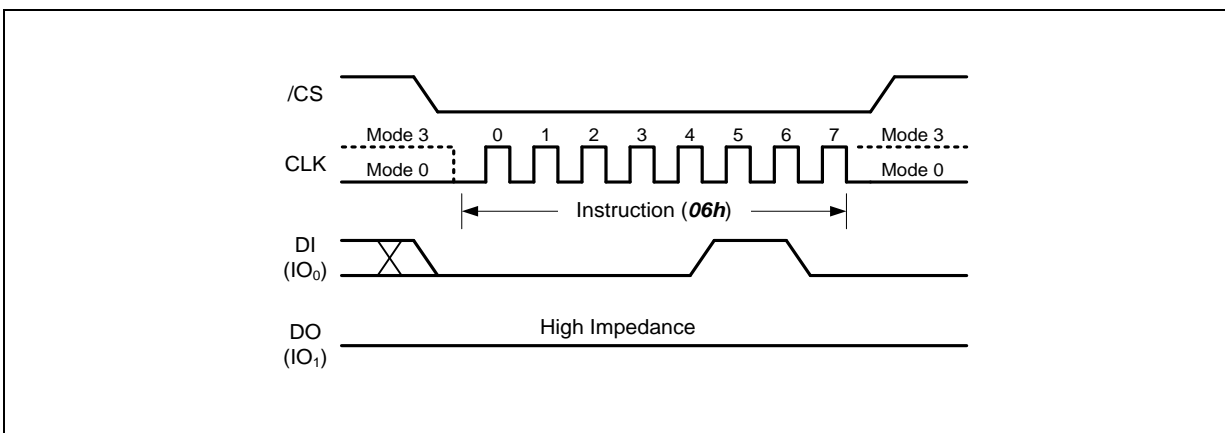

Figure 9. Write Enable Instruction
The Write Enable instruction (Figure 9) sets the Write Enable Latch (WEL) bit in the Status Register to a 1. The WEL bit must be set prior to every Load Program Data (02h/84h/32h/34h), Program execute and Block Erase instruction. The Write Enable instruction is entered by driving /CS low, shifting the instruction code “06h” into the Data Input (DI) pin on the rising edge of CLK, and then driving /CS high.